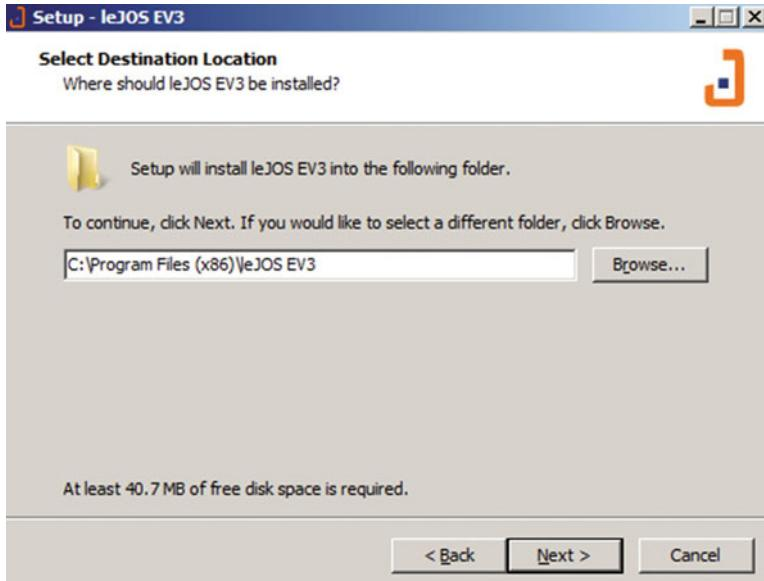

Figure 1-11. Choosing a folder to install leJOS EV3 program
4. Choose the 32-bit JDK that you installed, for example, jdk1.7.0_45, and then click the *Next* button. You will see the screen shown in Figure 1-11.